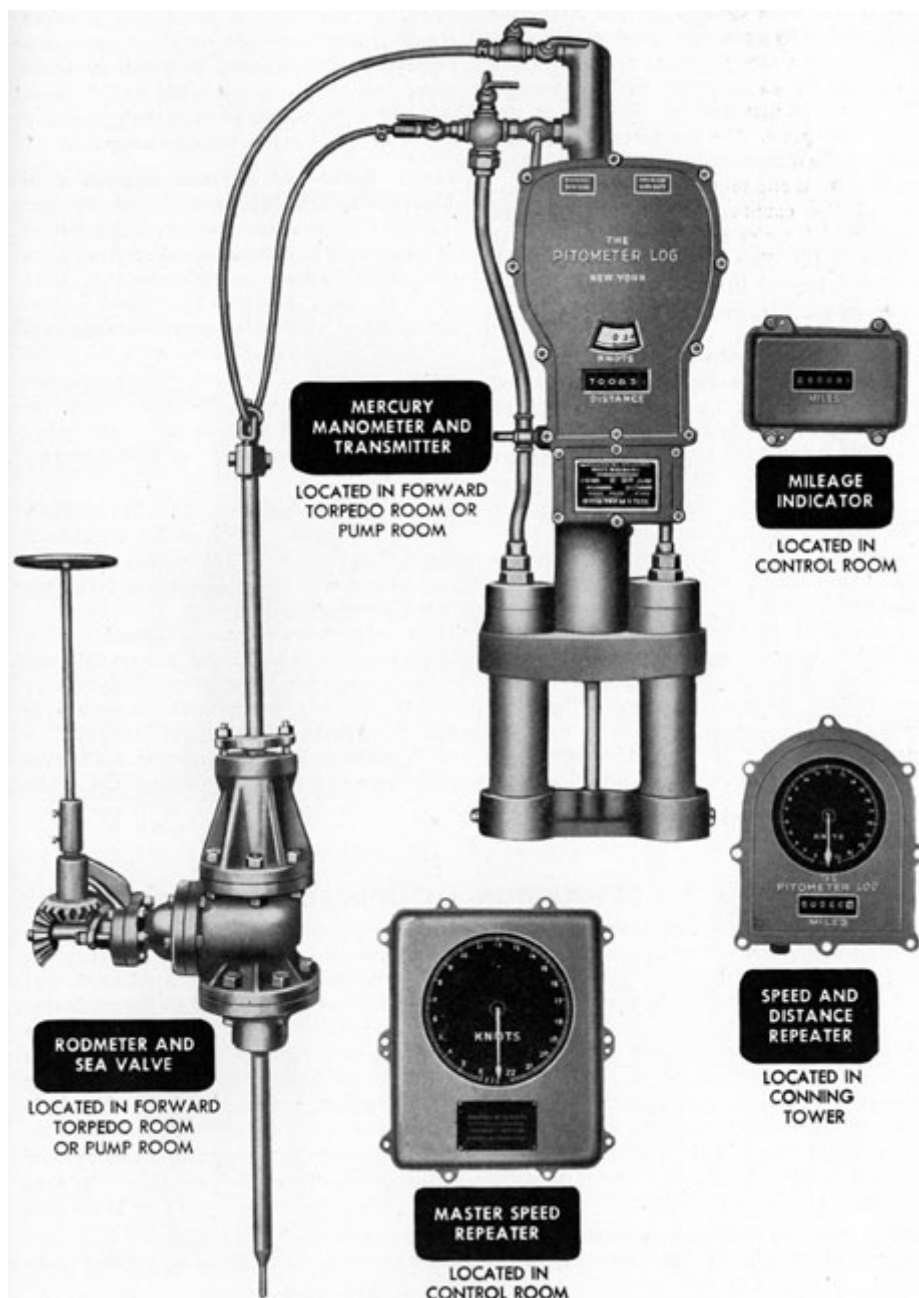

Figure 18-1. Components of mercury differential manometer underwater log system.
**18A1. General.** The mercury differential manometer underwater log (Figure 18-1) is made by the Pitometer Log Corporation, New York, New York. This type of underwater log derives its name from the fact that hydraulic pressures actuate a column of mercury in a mercury manometer. The movement of the column of mercury, caused by dynamic pressure from the rodmeter, is the actuating force that operates the system. This system consists of the following components: rodmeter, sea valve, manometer, transmitter, master speed repeater, speed and distance repeater, and a mileage indicator.
**18A2. Rodmeter.** (See Figure 18-1.) The rodmeter, commonly called the sword, is located in the forward torpedo room or in the pump room below the light draft water line. This rodmeter is identical with the rodmeter used with the Pitometer rotary balance type log. It projects through the hull of the ship into the water and is the unit in which
**18A4. Mercury differential manometer.** (See Figure 18-1.) The mercury differential manometer is a U-tube of special design, containing mercury. It is mounted in gimbals so that the assembly will tend to remain in a vertical position regardless of the roll and pitch of the ship. The two larger outer tubes of the manometer are connected at their base. A small central tube connects this base with a float chamber in which the mercury rises and falls with changes in the ship's speed. The top of the float chamber opens into a gear chamber which is connected to, the upper or static line from the rodmeter. Dynamic pressure from the rodmeter is hydraulically transmitted to the lower nipple of the manometer which is connected through piping to both side tubes. A hard rubber float filled with mercury supports a bronze gear rack which is meshed with a gear on the shaft in the
**18A3. Sea valve.** (See Figure 18-1.) The sea valve provides a means of closing the opening through which the rodmeter passes when it is withdrawn or raised to its fully secured position. The sea valve is located in the forward torpedo room beneath the deck. In some of the earlier ships, it is located in the forward part of the pump room. A tube connects the spigot and flange on the underside of the sea valve assembly with the outer hull, where it is welded to, a flange and guide bushing. The guide bushing forms the lower support for the rodmeter. A valve extension is mounted on top of the sea valve and forms an upper support for the rodmeter. A packing
**18A5. Transmitter.** (See Figure 18-1.) The transmitter is mounted in an aluminum case which is secured to the manometer gear chamber. A distance integrator cam and the speed dial are mounted as a unit on the mainshaft, which is coupled to the shaft extension of the manometer. The speed dial is positioned directly by the mercury in the float chamber, and will indicate the ship's speed in knots without electrical connections. This speed indication is transmitted to the master speed repeater, or in some cases to speed repeaters only, by a self-synchronous transmitter. Distance is obtained from the speed element by means of a time-controlled mechanical
**18A7. Speed and distance repeater.** (See Figure 18-1.) The speed and distance repeater is located in the conning tower. The function of this unit is to indicate
(See Figure 18-1.) The master speed repeater is located in the control room. Its functions are: (1) to receive speed indications from the self-synchronous transmitter in the transmitter; (2) to convert these indications from the irregularly spaced speed dial of the transmitter (Figure 18-4) to a uniformly spaced dial (Figure 18-9); (3) to transmit these speed indications to the speed and distance repeater, the gyro speed corrector, and the torpedo data computer. The interior mechanism is mounted on a plate which is removable from the case so that the complete unit may be removed for purposes of inspection and tests. The self-synchronous repeater in this unit receives speed indications from the self-synchronous transmitter in the transmitter case. The self-synchronous repeater in the master speed repeater actuates a follow-up motor which
**18A8. Mileage indicator.** (See Figure 18-1.) The mileage indicator is located in the control room. The function of this unit is to receive and record distance indications from the transmitter mechanism.